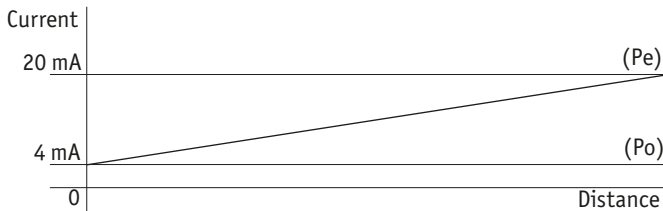

Fig. 11: Alignment
**Alignment (Fig. 11)**
2. Turn potentiometer Po (4) until start value 4 mA is measured.
4. Turn potentiometer Pe (5) until end value 20 mA is measured.